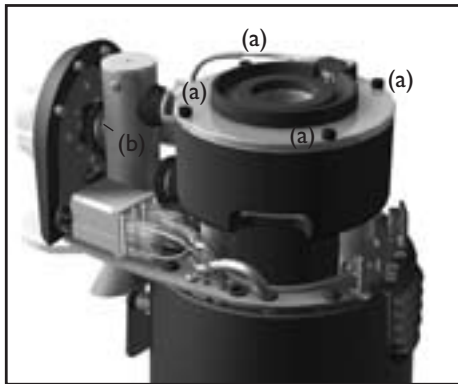

Fig. 8
Turn the front setting dial (4) all the way to the left. Turn the machine off, using the ON-OFF switch (12). Disconnect the cable from the power supply. Remove hopper (2) from upper body (3) according to section 7. Dismantle upper body (3), by unscrewing the two rear screws. Remove the 4 setting screws (a) of the upper burr holder from the grinding cup (Allen wrench 4), according to Fig. 8.